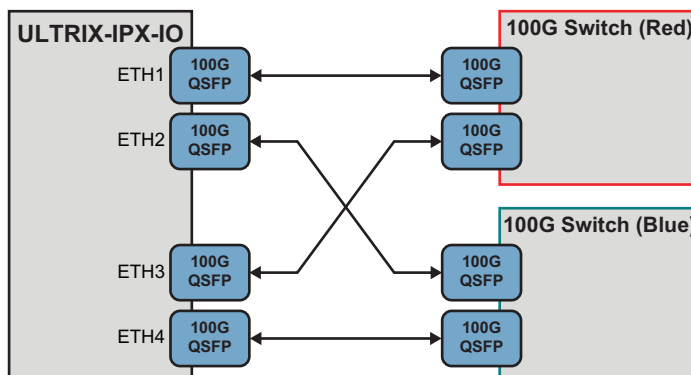

Figure 41 Workflow — QSFP to QSFP 100G Switch with Breakout
**Figure 41** shows a simplified workflow where the ULTRIX-IPX-IO provides bi-directional communication via four 100G QSFP using fiber cables connected to two 100G ethernet switches.